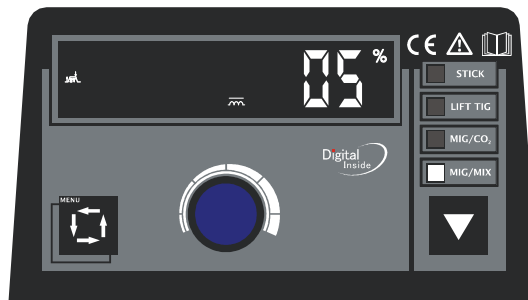

Fig.6 Fine adjustment of inductance range under MIG mode
- d) Press the **【Menu button】** for the 2nd time, the **【Main display】** shows the fine adjusting range of inductance. Turn the **【Data adjusting knob】** to set the range from -10% to +10% as Fig.6.